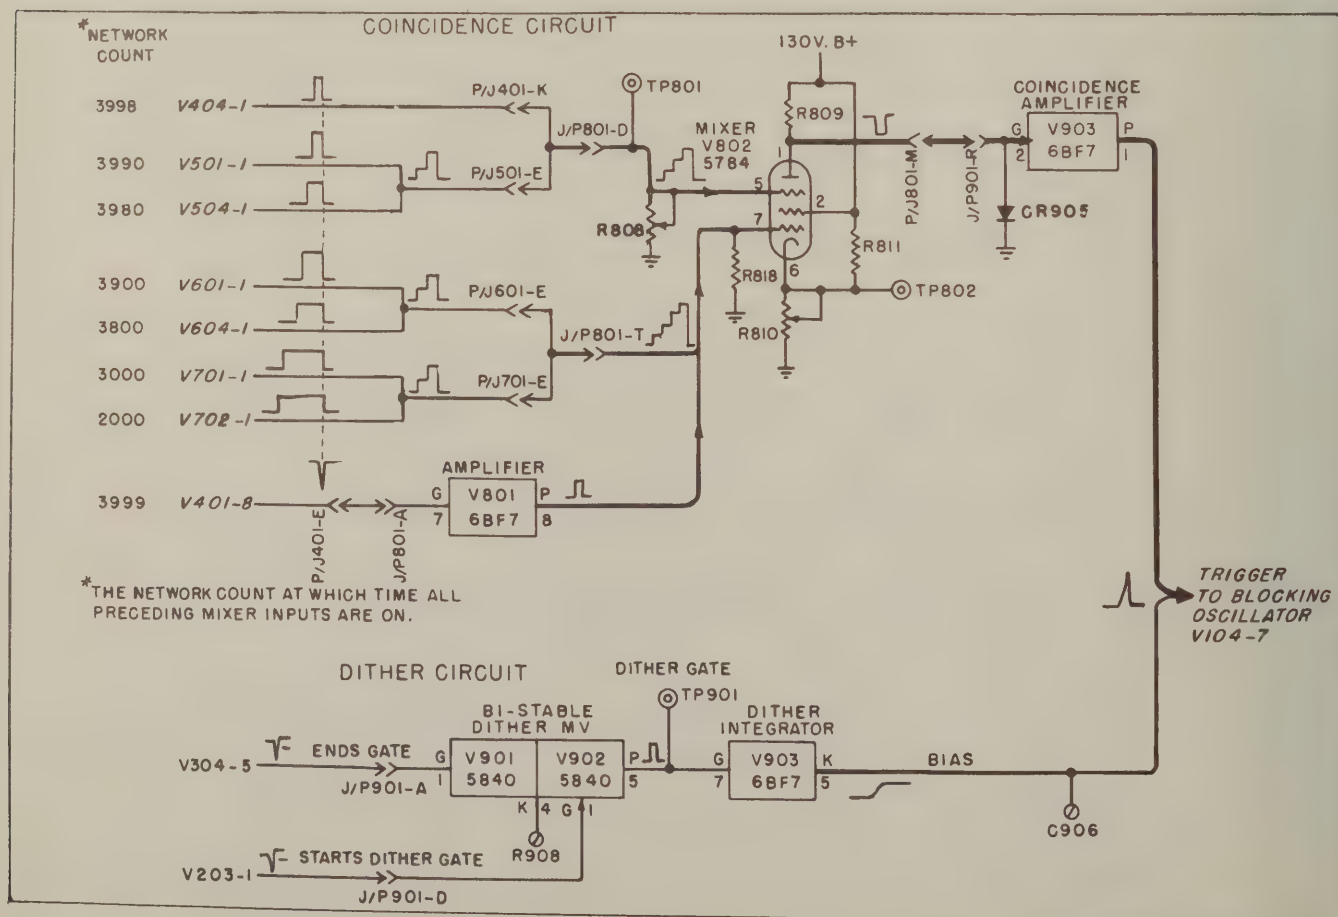

Figure 2-6. Mixer-Coincidence and Dither Circuits
Refer to figure 2-6. The control grid of pentode mixer V802 receives a composite signal of four positive gates, two each from the B sections of the first and last binary stages in E701 and E601. In addition, another input to V802-7 is received through an amplifying stage of V801, from the first binary stage of E401 at the terminal count 3999. The suppressor grid of V802 also receives a composite signal of three positive gates, two from the B sections of the first and fourth binary stages in E501 and one from the B section of the fourth binary stage in E401. Most of these individual positive gates applied to the grids of V802 occur repeatedly during each counting cycle. However, the useful sequence in which they occur is illustrated in figure 2-6, which lists the counter count
*d. COINCIDENCE OUTPUTS.*—With the exception of V401, coincidence outputs for the three decade counters are taken from the B sections (plate pin 1) of the first and fourth binary counters. These are positive voltages of approximately four volts peak, simultaneously present only at the count of nine. The coincidence output of V404-1 is fed through terminal K of P/J401 to the coincidence mixer V802 suppressor grid circuit. The coincidence outputs of V501-1 and V504-1 are coupled together through resistors R503 and R536 on female board E501, and through terminal E of P/J501 combine with the coincidence voltage from J401-K. See figure 2-6. The coincidence outputs of V601-1 and V604-1 join through resistors R609 and R642 on female board E601, and through terminal E of P/J601 connect to the control grid of coincidence mixer V802.